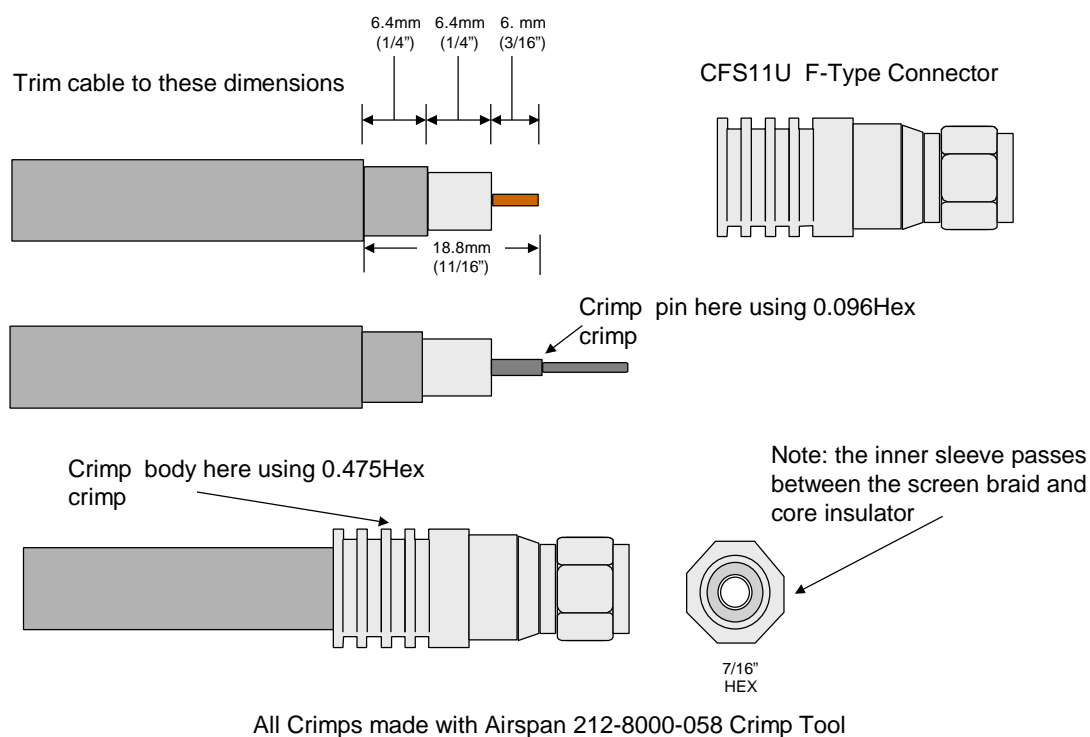

Figure 26. Terminating F-Type Connectors to T10 cable
1. Strip the Drop Cable using a knife or cable stripping tool to the dimensions shown in Figure 26